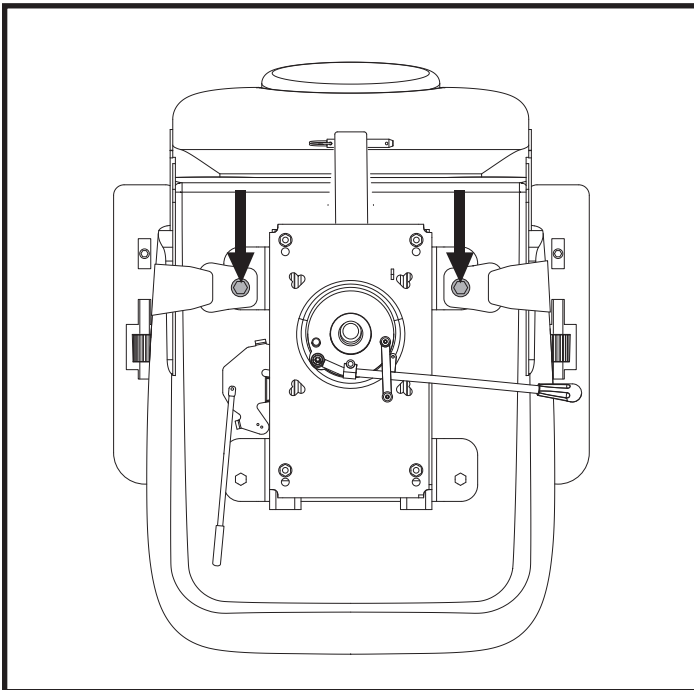

Figure 16. Positioning Belt Bolts
2. Place the seat upside down so that you can see the bottom of the seat base. **See figure 16.**